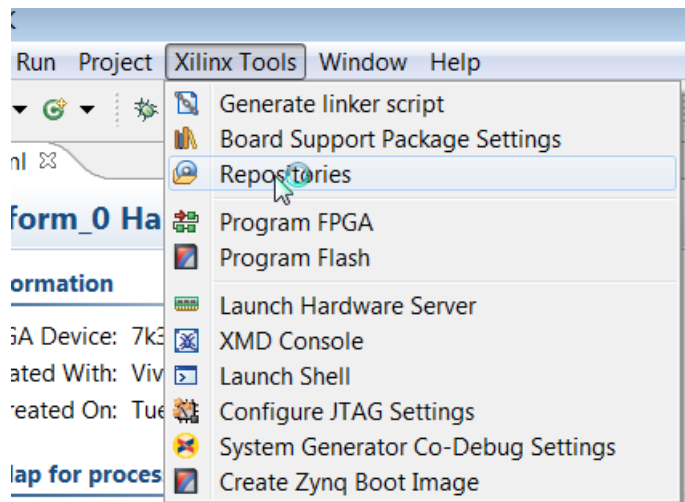

Figure 134: Xilinx Tools Repositories
1. In SDK, select **Xilinx Tools > Repositories** (Figure 134).